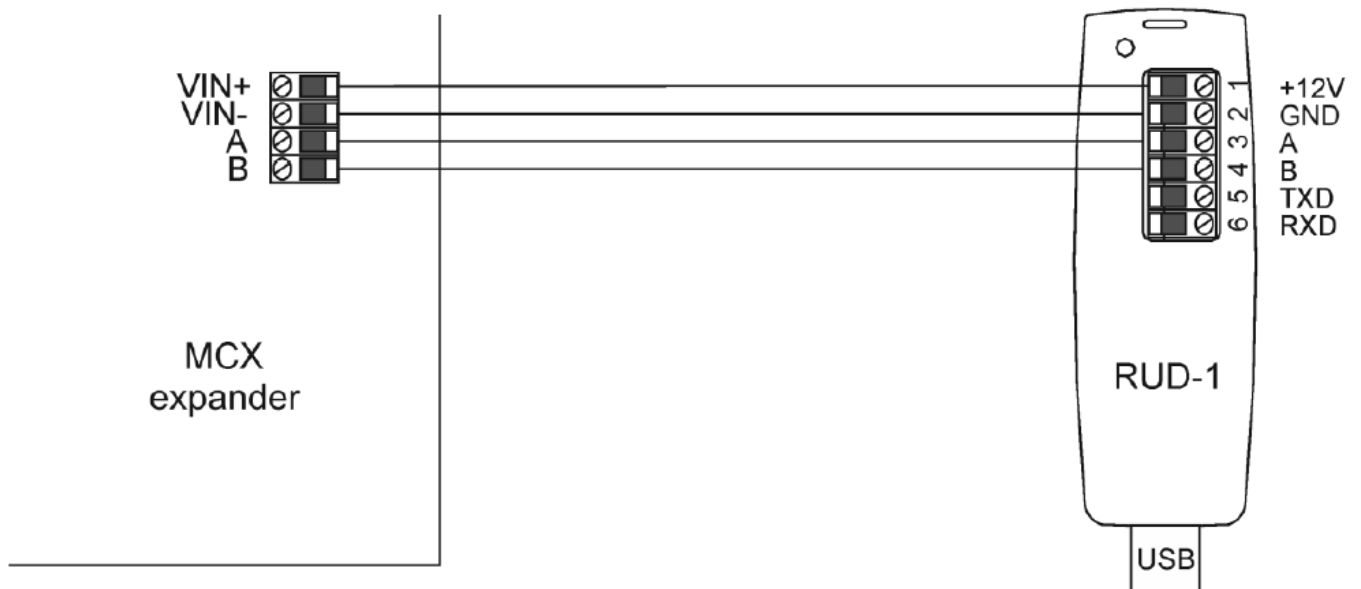

Fig. 7 Connection to RUD-1 interface (low-level configuration)
1. Connect the device to the RUD-1 interface (fig. 7) and connect the RUD-1 to the computer's USB port.